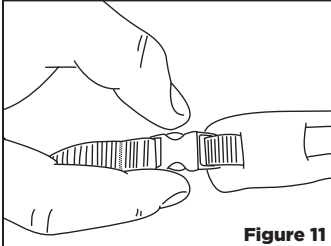

Figure 11
- 2 To release the strap simply pinch the two rounded bumps on the buckle until they are lower than the side wall of the buckle. Once the bumps are lower, pull one end of the strap away from the other until the buckle is completely separated, then your strap will be released. [See Figure 11]